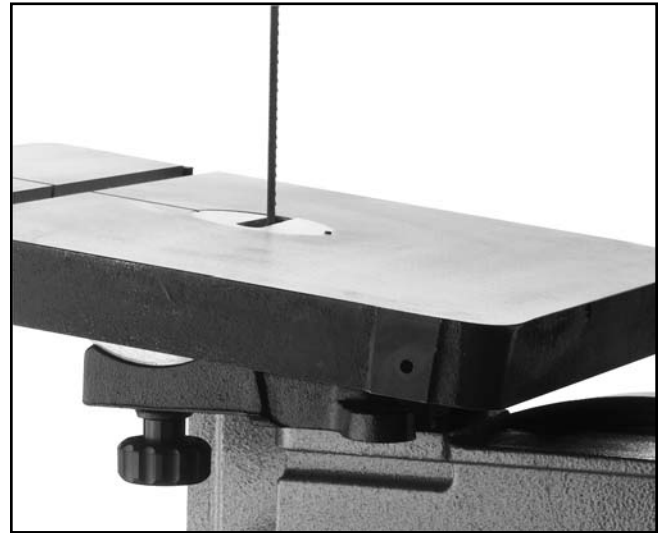

Figure 19. Table tilted left.
3. The table will now tilt left to approximately 10°. **See Figure 19.**